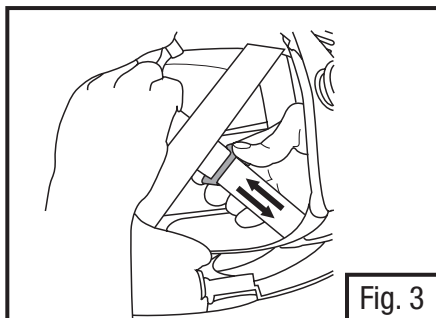

Fig. 3
- b. **M-100 Series Headgear Only:** The fabric straps of the M-100 can be adjusted by sliding the blue strap lock located on the center strap (Fig. 3). Sliding the buckle towards the rear of the headgear tightens the straps and will raise the height of the headgear on the head. Sliding the buckle towards the front of the headgear loosens the straps and will lower the height of the headgear on the head.